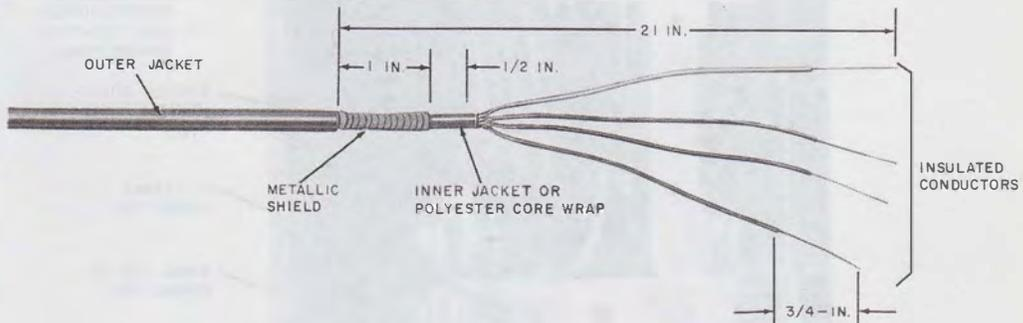

Fig. 15—Prepared Service Wire—E Cable Closure
5.06 Prepare service wire as illustrated in Fig. 15.
**G and H Cable Closures (MD)**
5.08 Prepare service wire for J cable closure the same as for E cable closure. Refer to Fig. 15.